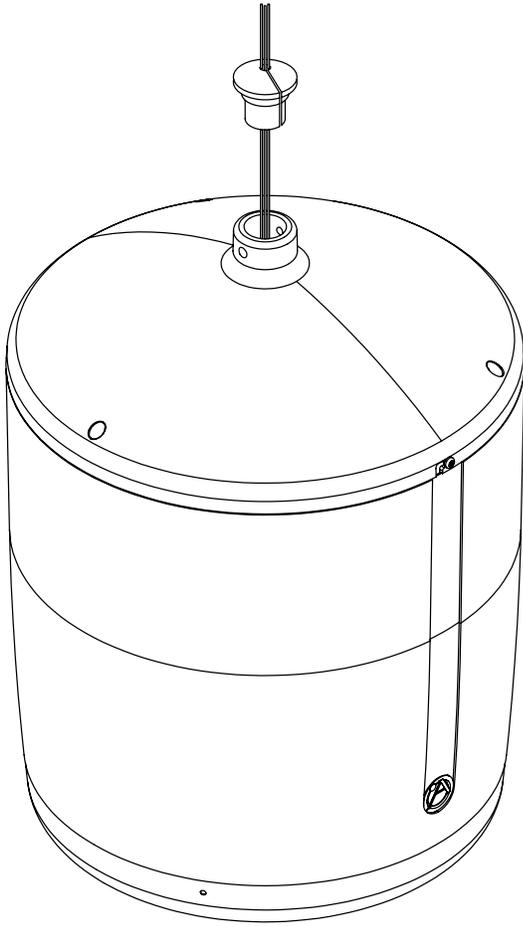

Figure 7
9. Slide the top hole plug over the main support cable, safety cable, and Ethernet cable using the opening on the side of the plug. Then slide the plug down the cable and into the top cover hole. (Figure 7 and 8)